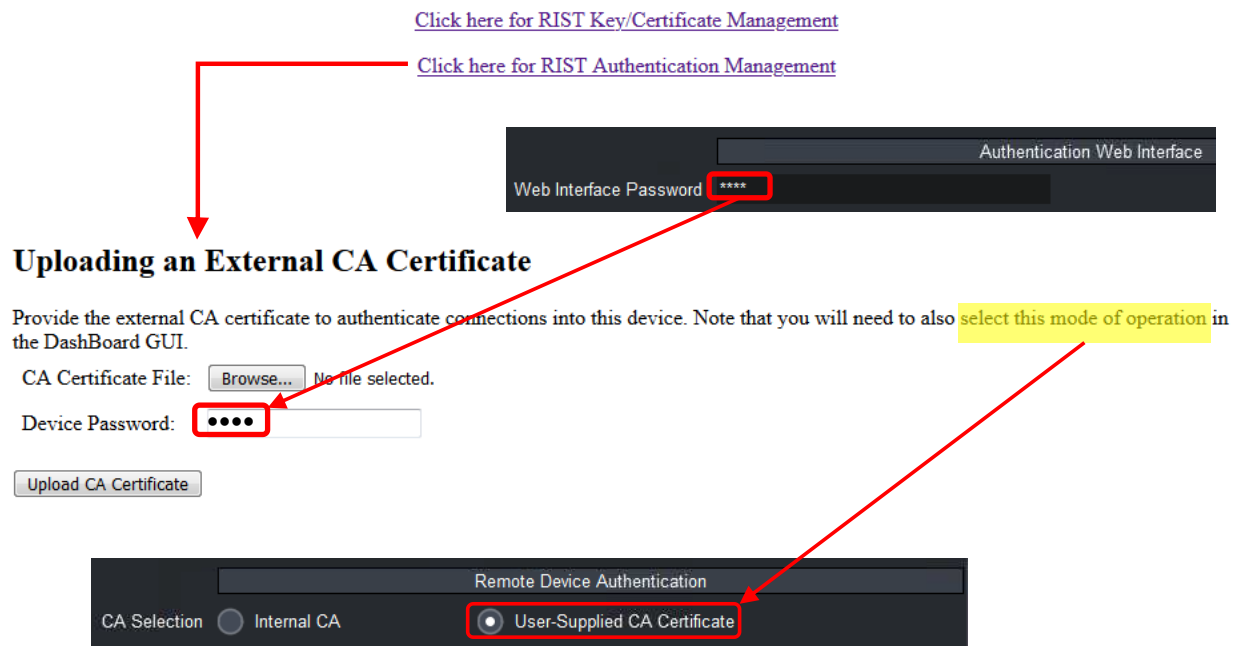

Figure 9: Uploading an External CA Certificate
2. Load the CA Certificate in every Cobalt device. Figure 9 shows how to do this.
The process of loading an external CA certificate in the Cobalt device (Step 2) is shown in Figure 9:
The device will check out the certificate for correctness and validity, and, if accepted, will save it. If the certificate is accepted, it can now be selected in DashBoard, as shown in Figure 9.
Figure 13 shows how to obtain the device's internal CA certificate for Step 2. No password is needed because the certificate does not need to be kept confidential. Use the process shown in Figure 9 to install the CA certificate in each Cobalt device.